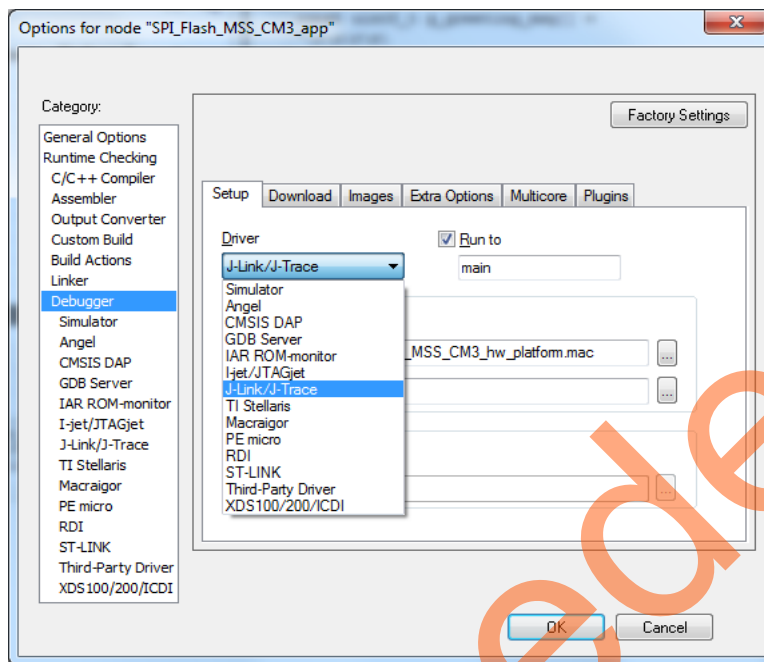

Figure 29 • IAR Debugger Options - Selecting Driver
14. Click **Debugger**. Under the **Setup** tab, select **J-Link/J-Trace** from the Driver the drop-down list (refer to Figure 29).